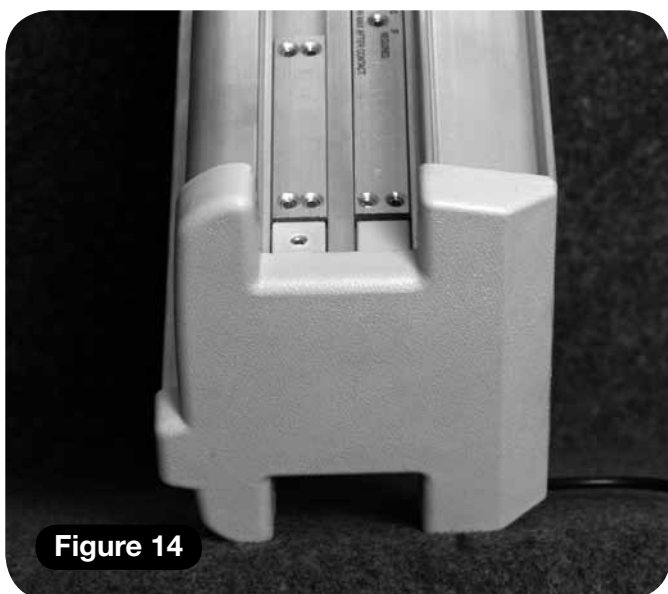

Figure 14
- 17** Fit the bottom end cap to the track (**Figure 14**), ensuring that the power supply cable is fed through the channel provided so that it exits the track on the WALL side.
- 19** Now slide the bottom end stop and final limit stop so that they sit against the positioning extensions of the end cap and then tighten the grub screws (**Figure 14**).